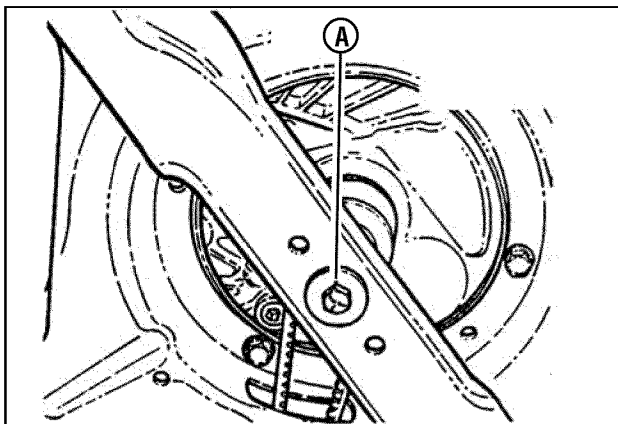

Figure 19: Tightening the blade cap screw
2. Tilt the mower up on its rear wheels for access to the blade cap screw (**A, Figure 19**). Do not tilt the mower with the spark plug or carburetor down.